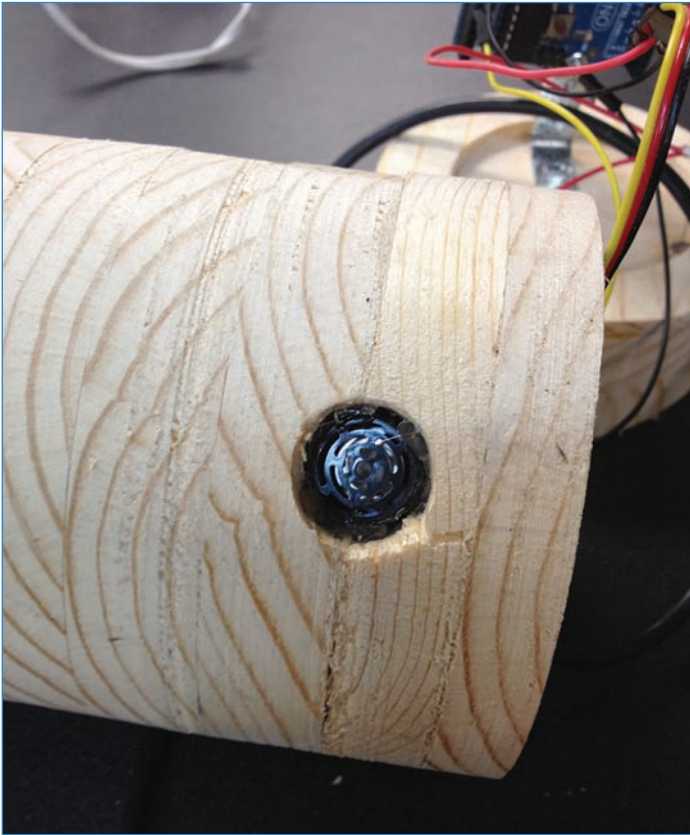

FIGURE 9.19 The business end of the ultrasonic sensor peeks out of the enclosure.
- 10.** Insert the ultrasonic sensor through the base of the cylinder and stick it through the 1" hole you drilled (see Figure 9.19). I used hot glue to secure it; there are screw holes in the sonar's circuit board, but I found them to be fairly inaccessible.